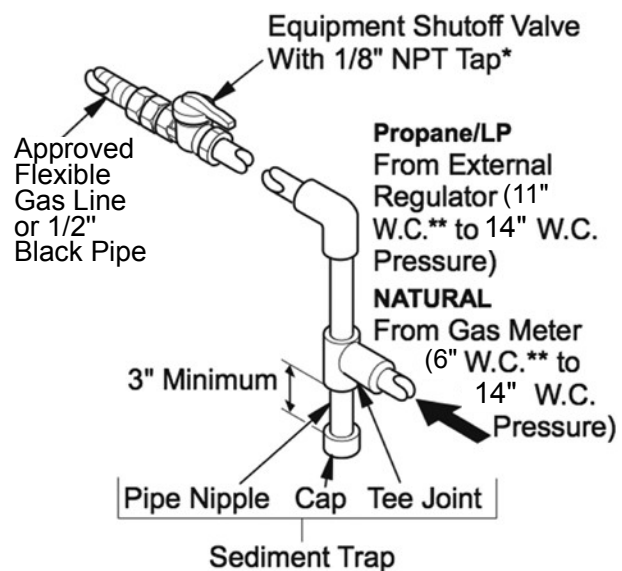

Fig. 10 - Gas Connection
- ⚠ CAUTION:** Use only new black iron or steel pipe. Internally tinned copper tubing may be used in certain areas. Check your local codes. Use pipe of ½ in. diameter or greater to allow proper volume gas to heater. If pipe is too small, loss of pressure will occur. Installation must include an equipment shutoff valve, union, and plugged 1/8-in. NPT tap. Locate NPT tap within reach for test gauge hook up. NPT tap must be upstream from heater (See Fig. 10).
⚠ CAUTION: Use pipe joint sealant that is resistant to gas (PROPANE or NG). We recommend that you install a sediment trap in a supply line as shown in Fig. 10. Locate sediment trap where it is within reach for cleaning and not likely to freeze. Install in the piping system between fuel supply and heater. A sediment trap traps moisture and contaminants. This keeps them from going into heater controls. If sediment trap is not installed or is installed incorrectly, heater may not run properly.